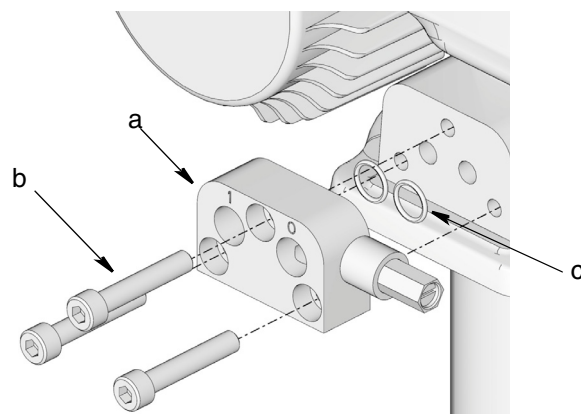

FIG. 3
5. Loosen, remove and discard the 3 socket head cap screws (b), from the adapter block (a) (FIG. 3).